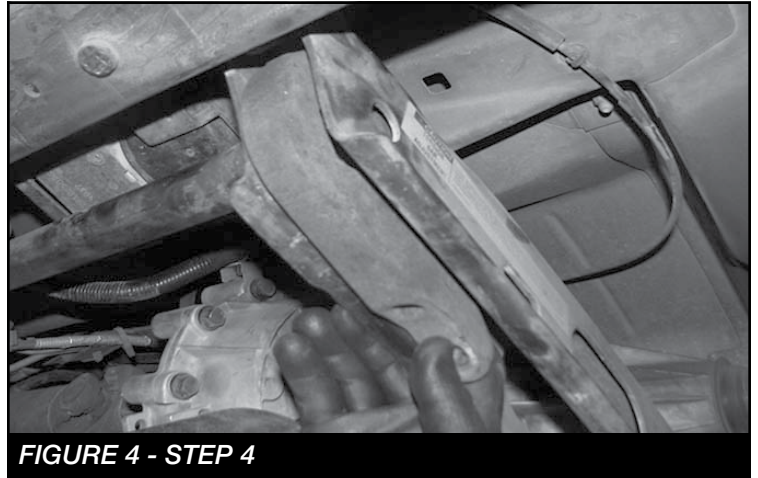

FIGURE 4 - STEP 4
4. Carefully unload and remove the torsion key tool. Next, slide the torsion bar forward (**note the key clocking position**) then remove the factory torsion key. **SEE FIGURE 4**